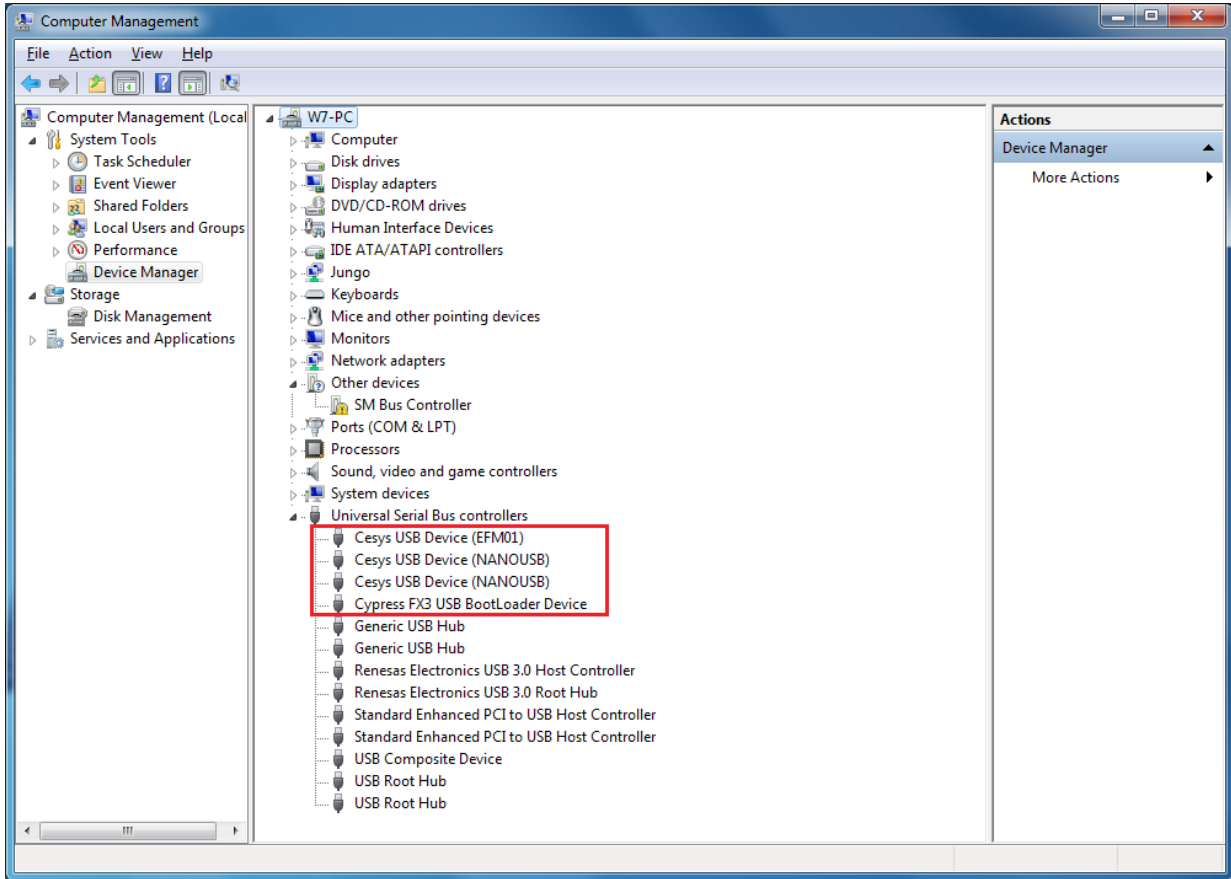

Figure 7: Device Manager - Correctly installed drivers
1) Plug the devices and wait for it to be automatically recognized. Please check on the **Device Manager** if your device is recognized as shown in table 1 and figure 7.